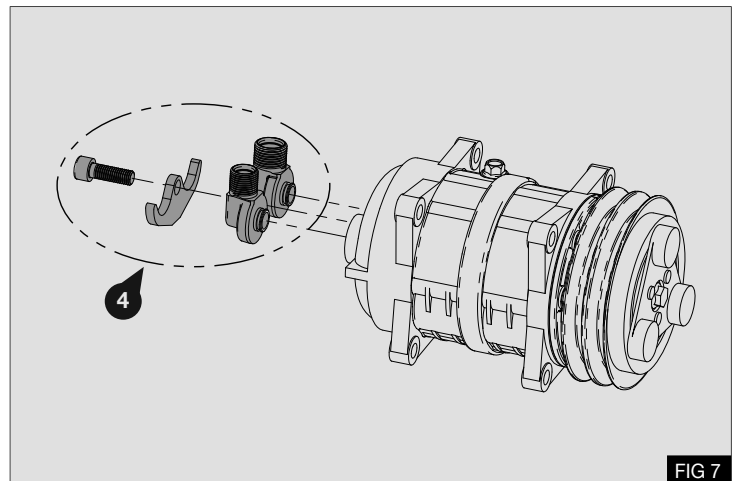

FIG 7
1. Install the supplied compressor manifold (4) to the compressor using the M10 bolt included in the manifold kit - Fig 7